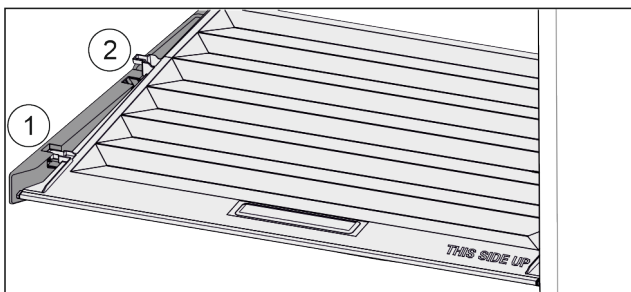

Fig. 118
- ▶ Pull the lid up at the front to the opening in the retaining parts Fig. 118 (1).
- ▶ Lift from the back and pull it up and out Fig. 118 (2).